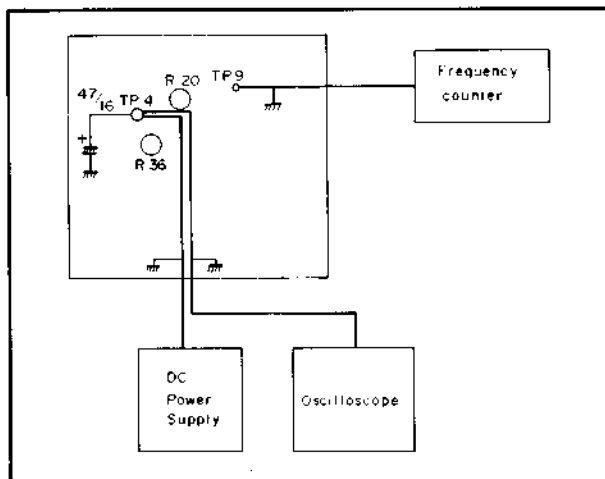

Fig. 6-27 Carrier and deviation adjustment setup
3. Connect the $47\mu\text{F}$ 16V capacitor between TP-4 (PRE-EMPHA. OUT) and ground as shown in Fig. 6-27.